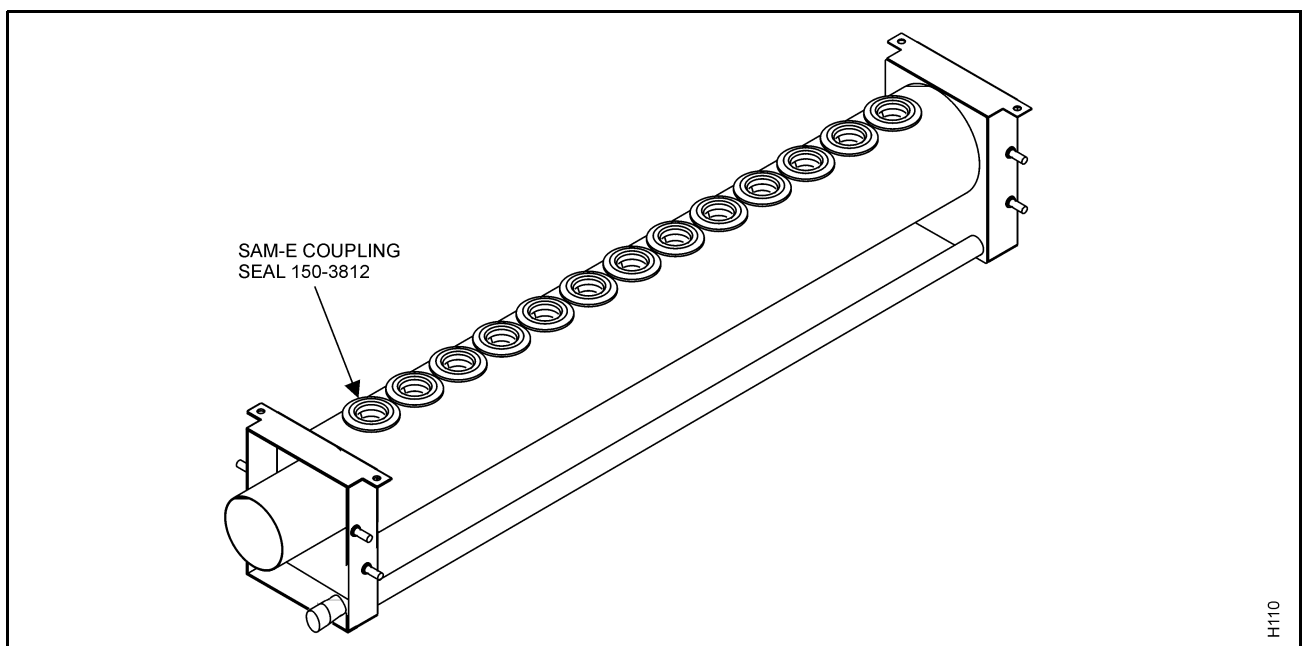

Figure 4. SAM-e Exploded View and Spare Parts
(1) See Figure 4 for the SAM-e exploded view and spare parts.